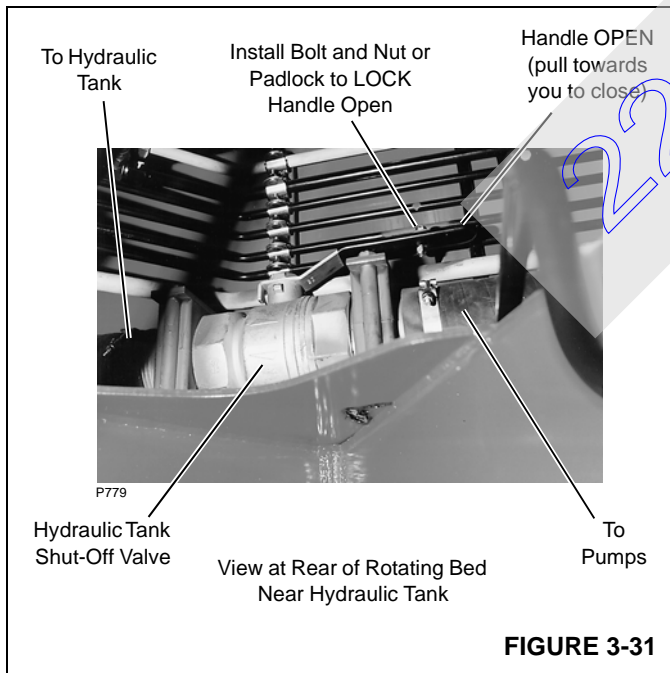

FIGURE 3-31
3. Open hydraulic shut-off valve (Figure 3-31).